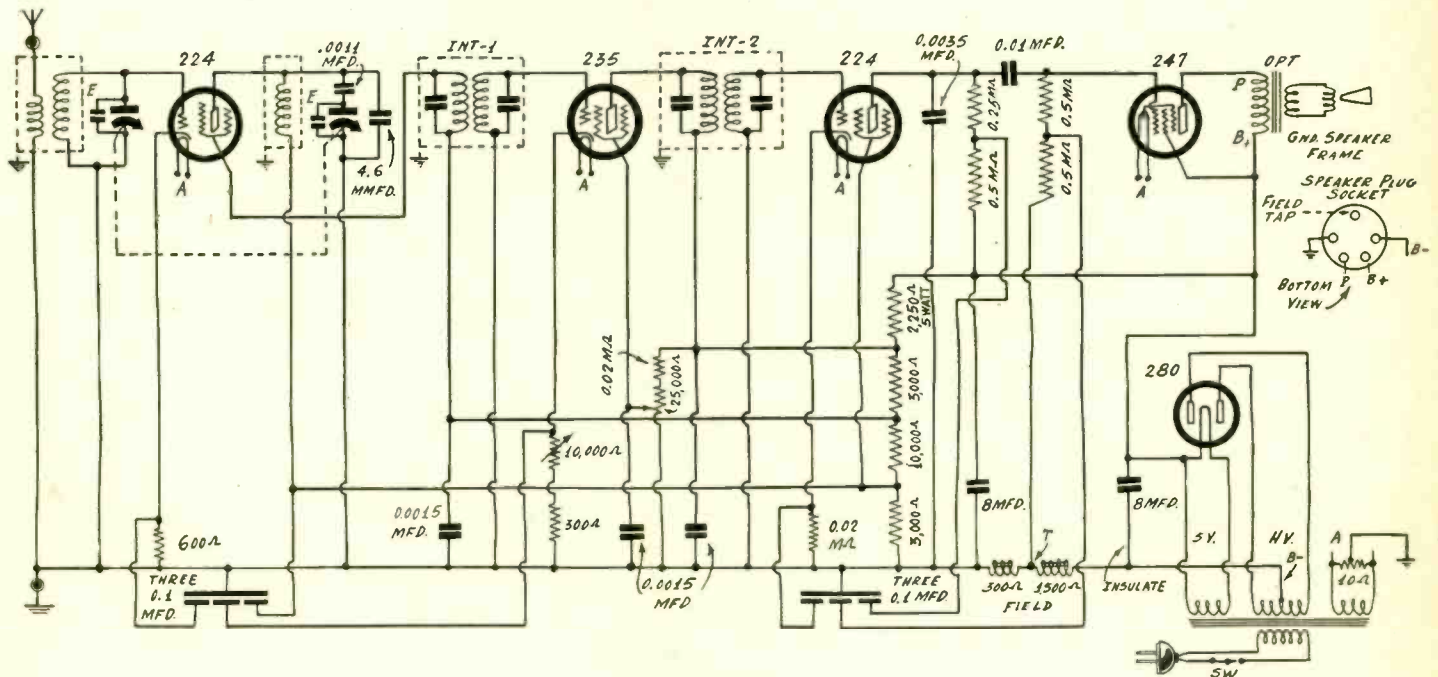

FIG. 1
A SMALL set was built to cover the broadcast band and short waves, from about 550 meters to about 10 meters, and the volume control was the usual rheostat in the cathode leg of the only intermediate amplifier used. The intermediate frequency was 1,600 kc. The volume control detuned the intermediate frequency. Therefore the control had to be put elsewhere, and it will be found in Fig. 1 as a potentiometer in the pentode grid circuit.
## Fig. 1 of this Article Covered by Blueprint 628-B
*A full scale blueprint is obtainable, showing the layout of parts, coil relationship, the pictorial wiring, schematic diagram, as well as giving the itemized classified list of parts, for the short-wave set, 15 to 200 meters (Fig. 1, page 4.) Order Cat. BP-628B, and send 25 cents in coin, stamps, check or Post Office money order, to RADIO WORLD, 145 West 45th Street, New York, N. Y.*
Fig. 1 reveals that fact that the input is tuned in the usual way, but that the output is taken from the screen circuit, while the plate circuit determines the frequency of oscillation. A two gang condenser therefore would take care of the grid and plate circuits, while the primary of the intermediate input transformer would be connected in the screen circuit.
SOMETIMES it is necessary to set up an oscillator circuit which will operate at extremely high frequencies, of the order of 60,000 kc and higher. Just any circuit hooked up in the form of an oscillator will not oscillate at such frequencies because of capacities in the tubes. It has been found that if two equal tubes are arranged in a push-pull fashion with the tuned circuit connected between the two plates, the frequency of oscillation can be raised materially. In this way the plate to filament capacities of the two tubes are in series and they are also in series with the tuned circuit consisting of  $L_1$  and  $C_1$  in Fig. 1.